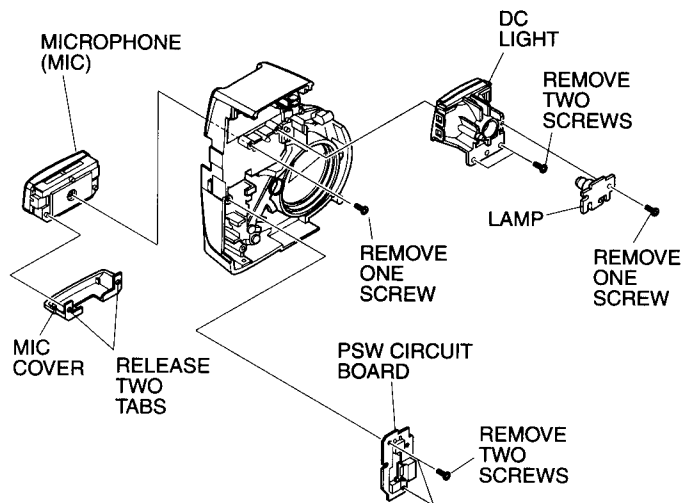

Fig. 2-7
2.6 Microphone (MIC), DC Light, Lamp, PSW Circuit Board (Fig. 2-7)